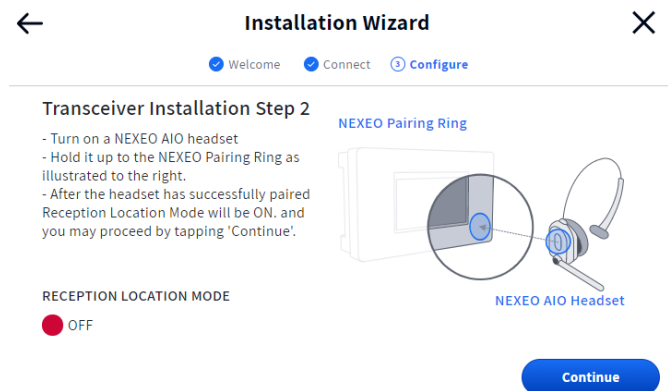
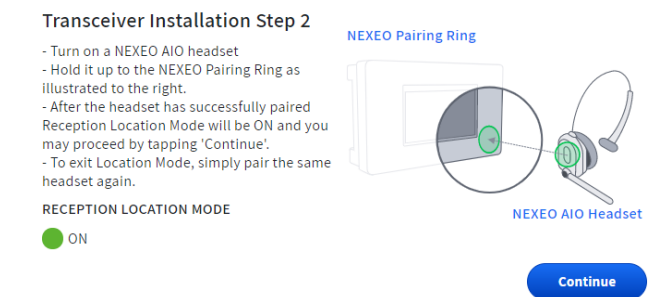
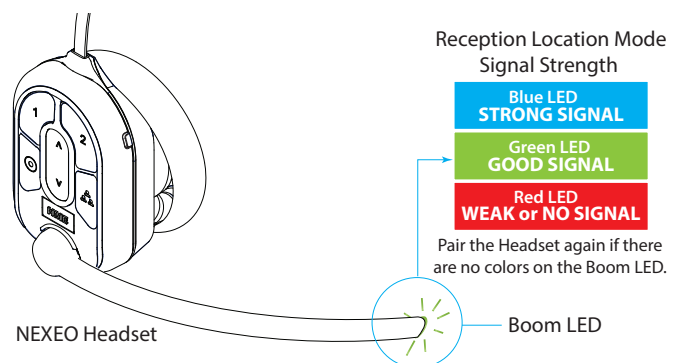

Fig. 2.7
Fig. 2.8
Fig. 2.9
10. **Critical Step:** At the Configure stage of the Installation Wizard, the Transceiver Installation Step 2 screen prompts you to use a paired headset switched into Reception Location Mode (Fig. 2.7). When you pair a headset at this step, the Reception Location Mode indicator turns from ● OFF to ● ON (Fig. 2.8). Tap “Continue” to move to Transceiver Installation Step 3. You will need to walk all areas of the store where the headset will be used to ensure a good signal. The Boom LED at the tip of the Headset microphone flashes different colors to indicate areas with strong or weak reception (The NEXEO screen displays this color-coded range which is also shown here in Fig. 2.9). Depending on the results, you may have to reposition the Remote Transceiver before finding the optimal location. **Note:** Depending on the size and layout of the store, some stores may require more than one Remote Transceiver to provide adequate coverage. Also see CAUTION note for Step 5.